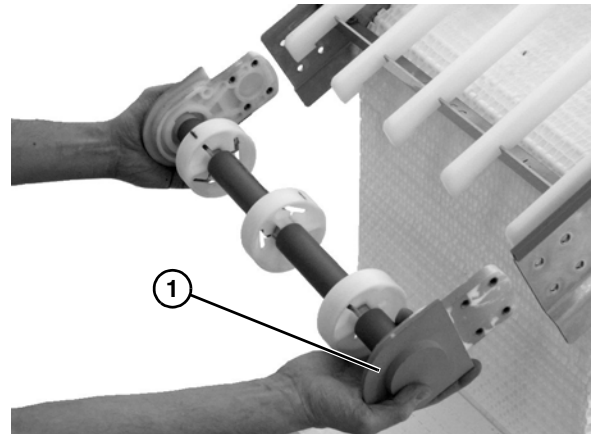

Figure 61
- Remove idler tail assembly (**Figure 61, item 1**).